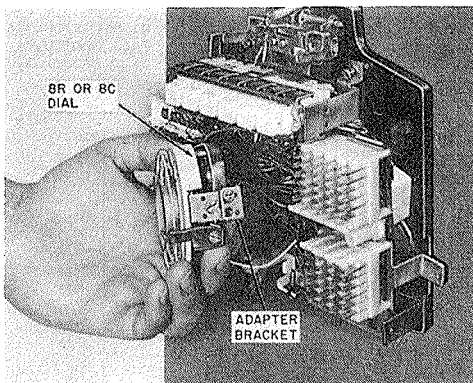
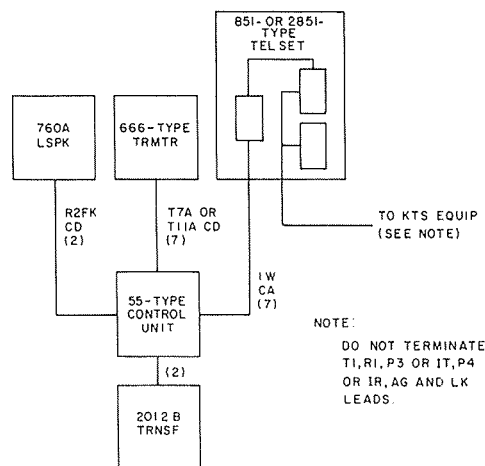

Fig. 16—Dial Adapter Bracket
Fig. 18—Block Diagram, Control Unit Located Near Station
3.11 Speakerphone: These sets are factory-wired for 3-type speakerphone except that the 851-type telephone set requires the replacement of the 8R dial with an 8C dial to provide a second set of off-normal contacts (P3 and P4 leads). When replacing the dial the adapter brackets must be removed from the 8R dial and added to the 8C dial (Fig. 16). Terminate the additional leads as shown in Fig. 22. With both the rotary and the TOUCH-TONE sets, a loudspeaker and transmitter must be installed external to the set and wired to the 55-type control unit. The control unit can be located near the telephone set (Fig. 18) or at the KTS equipment (Fig. 19).
5.02 When dial replacement is necessary in the 851-type telephone set, use an 8R dial for nonspeakerphone sets and an 8C dial for sets with speakerphone. Remove dial by loosening mounting screws and springing dial brackets sufficiently to release dial from locating pins. Left hand bracket may have to be moved slightly toward right side of set to permit dial to clear screw terminal field (or loosen and move screw terminal field). Transfer adapter brackets from dial being replaced to new dial (Fig. 16).